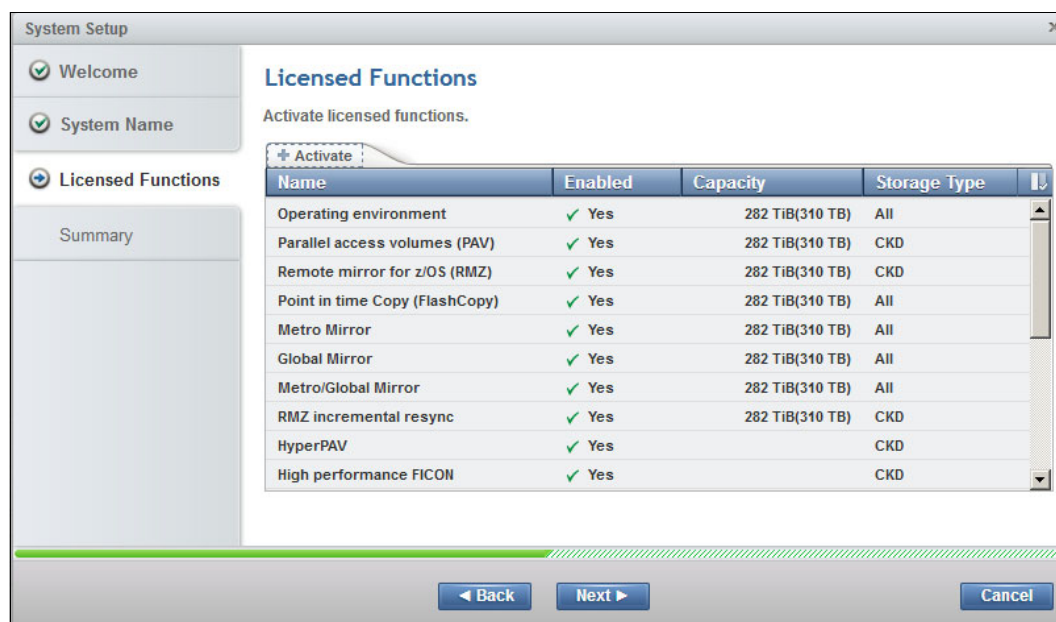

Figure 11-7 System Setup: Licensed Functions Enabled
- When the license keys are entered click **Activate** to enable the functions as illustrated in Figure 11-7.